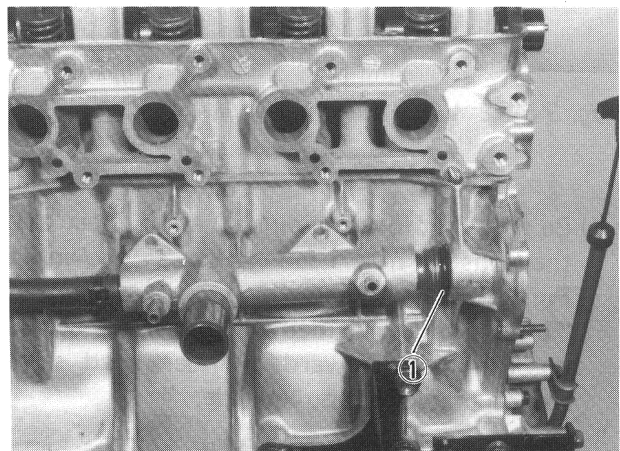

**Fig. 3-6-37**
- 3) After installing rocker arms, springs, and rocker arm shafts as shown in Fig. 3-6-37, tighten rocker arm shaft screws to specified torque.